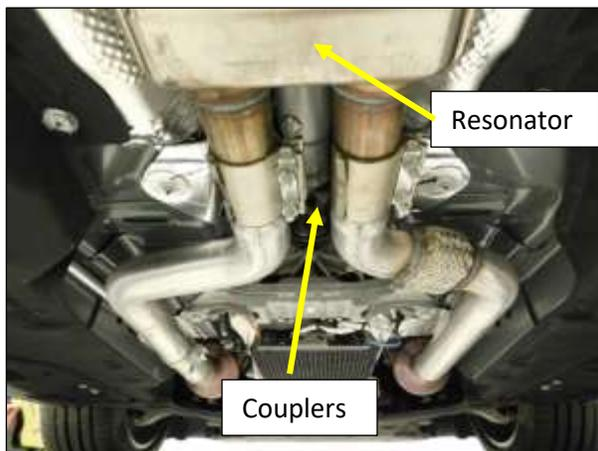

Figure 3
4. Loosen the 15mm nuts on the couplers at the resonator inlet pipes (**Fig. 3**).